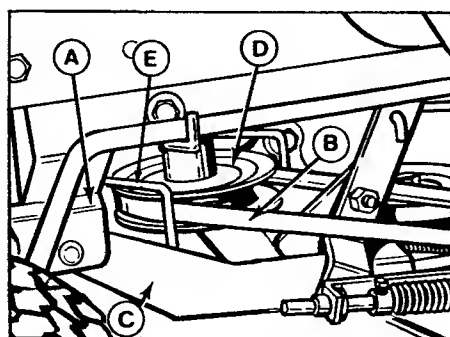
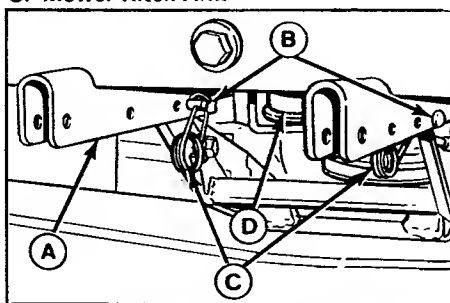
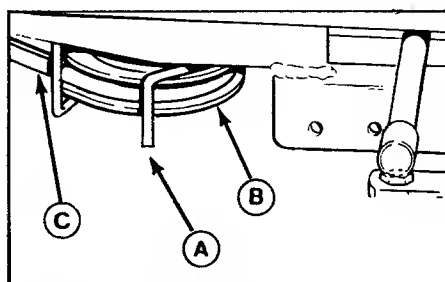

Figure 3. L.H. PTO Pulley Belt Stop
Figure 4. Mower Hitch Attached
Figure 5A. R.H. PTO Pulley Belt Stop
7. Position the mower hitch arms (C, figure 3) so they are underneath the rear holes in tractor hitch (A, figure 4). Lift up one side of mower with both hands
and align hole in mower hitch arm with rear hole in tractor hitch. When holes align, use one hand to insert a pin (B, figure 4) thru hitch. Go to the other side and insert the other pin. Install the two safety clips (C) in the pins.
8. Slip the mower drive belt onto the Engine PTO pulley (D, figure 3). Loosen the belt stops if necessary. The left-hand belt stop is item E in figure 3. The right-hand belt stop is item A in figure 5A.